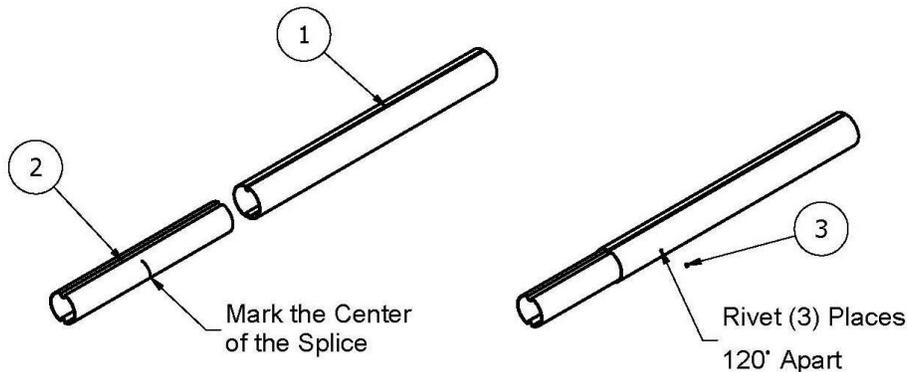

Figure 3
- Install the splices at each joint of the drive tube. See figure 3 next page.
Refer to Figure 3 for the following step